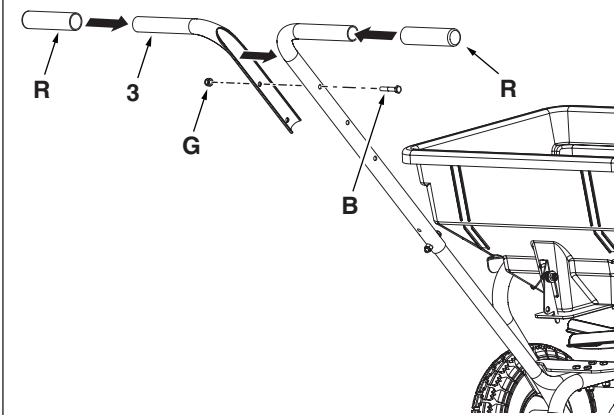

Figure 12
STEP 12: (SEE FIGURE 12)
- Attach the short handle tube (3) to the handle tube using a 1/4 x 1-3/4" hex bolt (B) and secure with a 1/4" nylock nut (G). Slide the handle grips (R) onto the ends of the short handle tube and the handle tube. Tighten hardware.